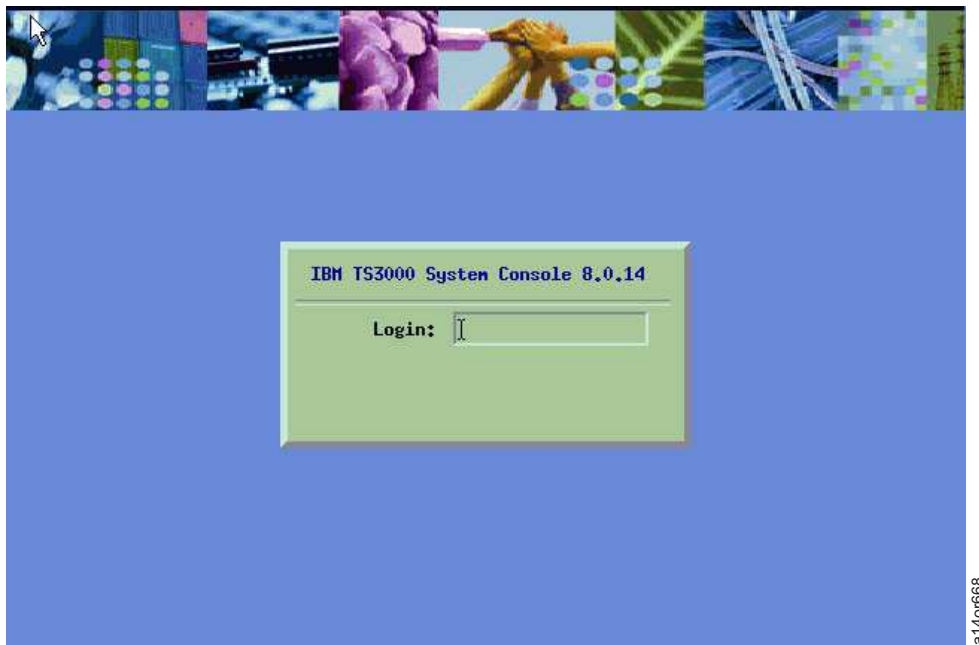

Figure 61. System Console Login screen
The system console is ready for user login when you see the System Console Login screen, represented in Figure 61 (microcode level might vary). Two login options are available.
For a non-authenticated login, at the System Console Login screen (Figure 61), in the **Login** field type service and press Enter. In the **Password** field type service and press Enter. This type of login provides access to all console configuration and service tools. This login and password are not valid for subsequent logins to any attached system. Non-authenticated logins are not available for remote access (see “Remote Access Using NetTerm” on page 138).
1. At the System Console Login screen (Figure 61 on page 50), in the **Login** field type Service (case sensitive) and press Enter. In the **Password** field, type ibm2serv (case sensitive) and press Enter.